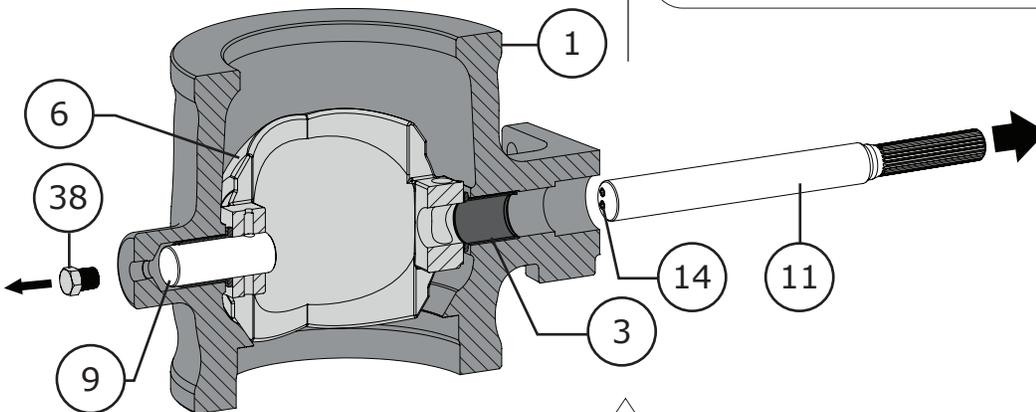

Figure 19 3 to 12 Inch Drive Shaft / Pipe Plug Removal
- 6 Remove the drive shaft (Key 11) from the actuator side of the valve. Refer to Figure 19.